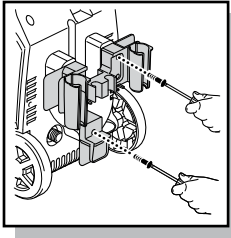
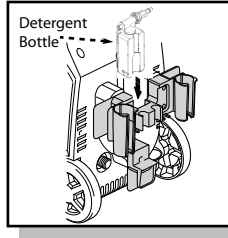

Fig. 1
Fig. 2
- Install the accessory holder on the back of your **BLUE CLEAN POWER WASHER** (Fig.1). You'll notice where the accessory holder meets the back of the unit. You will see several male index posts which fit into female holes. The posts and holes enable easy placement of the accessory holder and easy tightening of the screws. Place the screws in the holes provided on the accessory holder and screw them in. Do not use a power screwdriver. When the screw is completely tight, give a small final clockwise twist of the screwdriver. Do not over tighten. After the accessory holder is installed you will notice a square area in the center of the holder where the square detergent bottle may be stored and easily retrieved (Fig.2).
- Using one of the supplied screws, install the small electric power cord holder below the accessory holder so that the "L" - shaped holder faces downward. The electric power cord can now be wrapped around the accessory holder and the bottom "L" - shaped holder while your power washer is not in use (Fig.1).